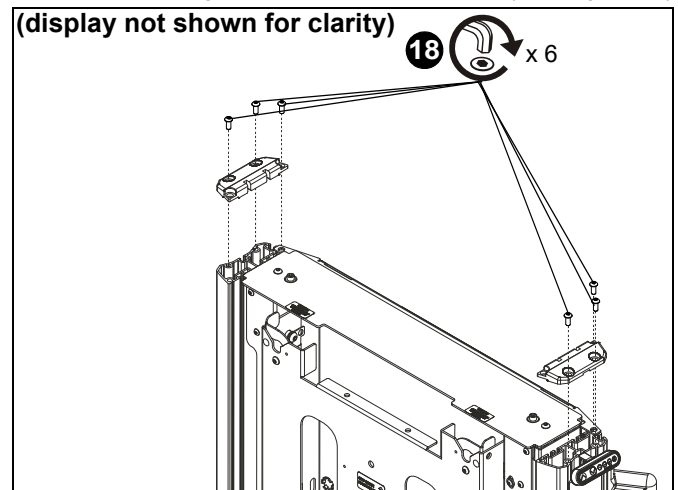

Figure 13
- 18. (XPD1U/XFD1U ONLY) Reinstall tabs from top of side channels using screws removed in Step 1. (See Figure 13)